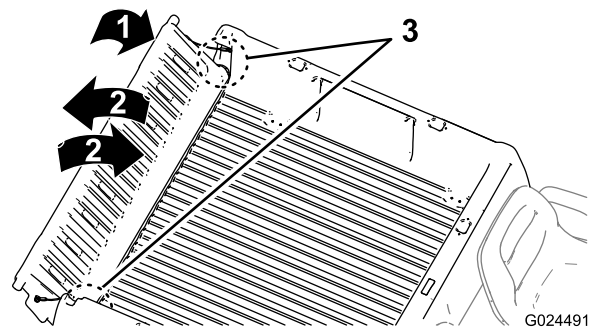

Figure 14
- B. Rotate the tailgate to approximately 45° position (Figure 14).
- C. Using a short, shaking motion—rotate the tailgate back and forth several times (Figure 14).